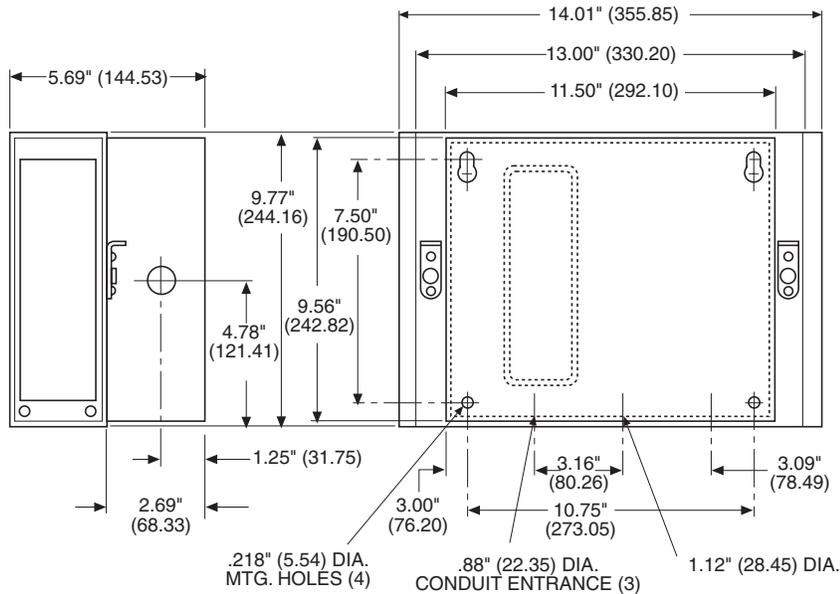

Figure 1 - Outline Dimensions
Refer to Figure 1, Page 6, for dimensional data and mounting hole locations.
3. Using the dimensional data in Figure 1, Page 6, mark and drill four (4) mounting holes using a #21 drill. Tap the four (4) holes using a #10-32 tap.
4. Start the top two (2) screws in the mounting holes but do not tighten. Leave sufficient space between the mounting surface and the screw heads to mount the control.
5. Carefully slide the large slots of the top two (2) mounting screw holes in the control chassis over the heads of the mounting screws already installed. Slide the control all the way down on the screws.